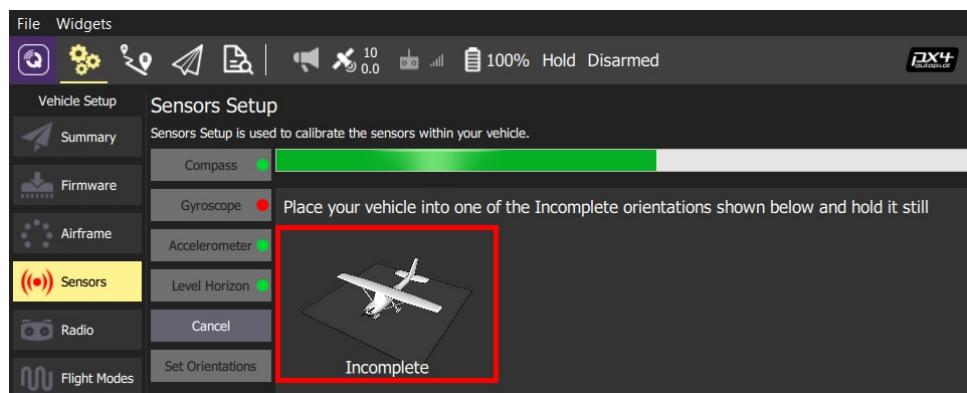

Figure 3.15: Gyro calibration in progress on PX4
3. Click **Ok** to start the calibration. The bar at the top shows the progress (figure 3.15).